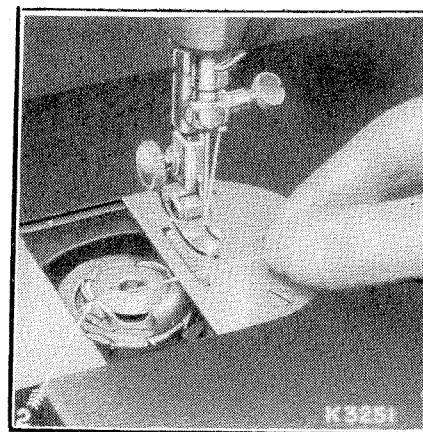

Fig. 6. Bobbin Case threaded.
Draw the thread towards you between the bobbin case and the tension spring until it passes the notch (2) in the bobbin case, as shown in Fig. 6.